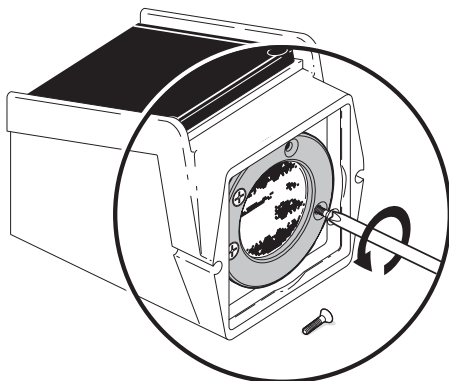

Figure 11-12. Remove Screws, Retaining Ring, and “O”-ring
2. Remove the four screws and the black Retaining Ring. Remove and discard the “O”-Ring (Figure 11-12).